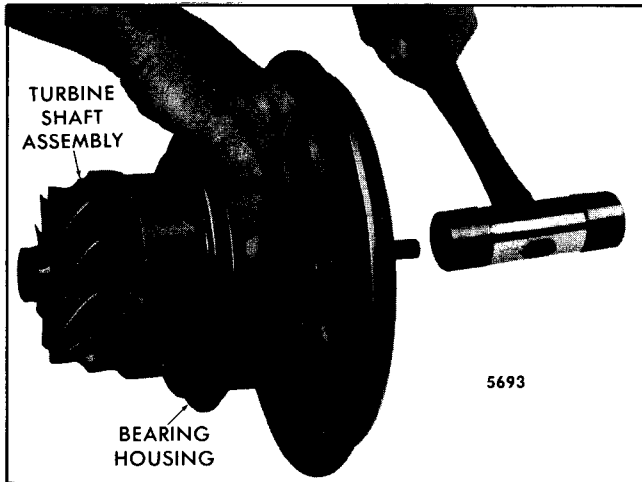

Fig. 9 - Tapping Turbine Shaft Assembly from Bearing Housing
10. Tap the turbine shaft assembly gently with a plastic faced mallet to release it from the bearing housing (Fig. 9).